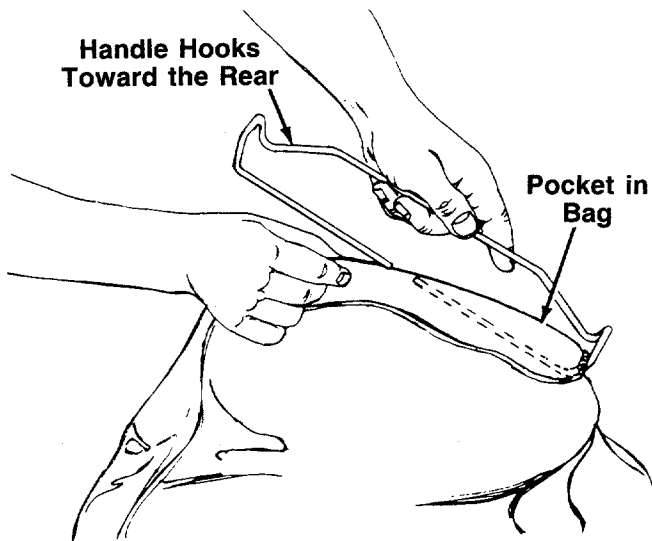

FIGURE 11.
- Attach the rear handle to bag by inserting one side of handle into pocket on the rear of the bag. The handle should hook toward the rear of the bag as shown in figure 11. Thread all the material onto one side, then slide it over onto the other side. See figure 11.